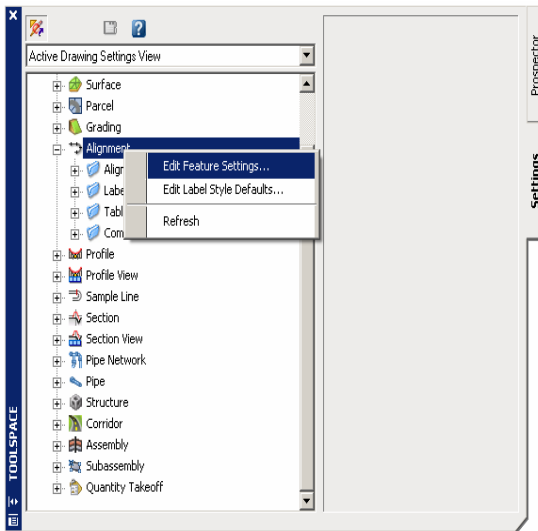

Figure 8A. Edit feature setting for alignments.
- Edit the settings for all alignments that will be created by right-clicking at the top-level setting for an object type. In this case, right-click the Alignment setting to access the feature-level settings for all alignments that are to be created, as shown in Figure 8A.